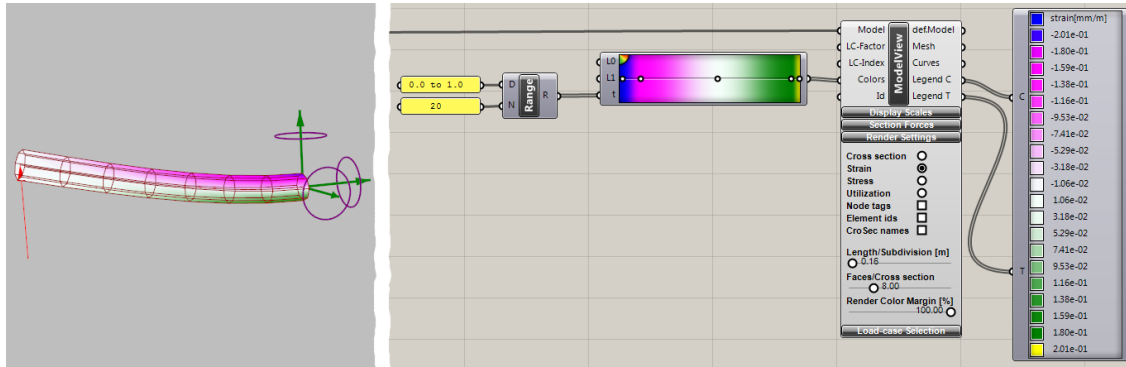

Figure 8: Color plot of strains with custom color range.
- "Colors": Color plots for stresses, strains etc. use a color spectrum from blue to white to red by default. One can customize the color range by handing over a list of RGB-values to the "Colors"-plug. There have to be at least three colors given. The first color is used for values below, the last color for values above the current number range. The remaining colors get evenly distributed over the number range. The Grasshopper component "Gradient" can be used to generate the list of colors (see fig. 8).
- "Legend C" and "Legend T" provide lists of colors and strings which can be fed into Grasshoppers Legend-component (see fig. 8). The numbers on the right side of the Legend correspond to the lower limit that the corresponding color represents. The number of color shades can be set in the "karamba.ini" file.